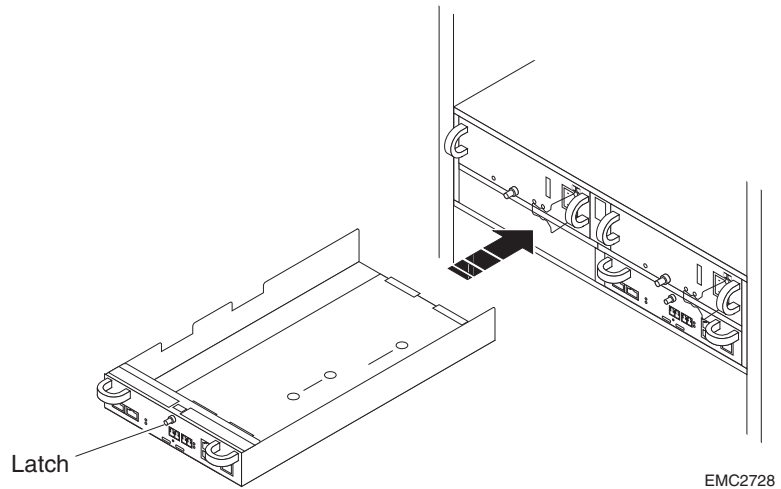

Figure 3-11 Installing an SP
1. *Gently* insert the SP as shown in Figure 3-11. Be sure the module is completely seated in the CX500/CX500i midplane.